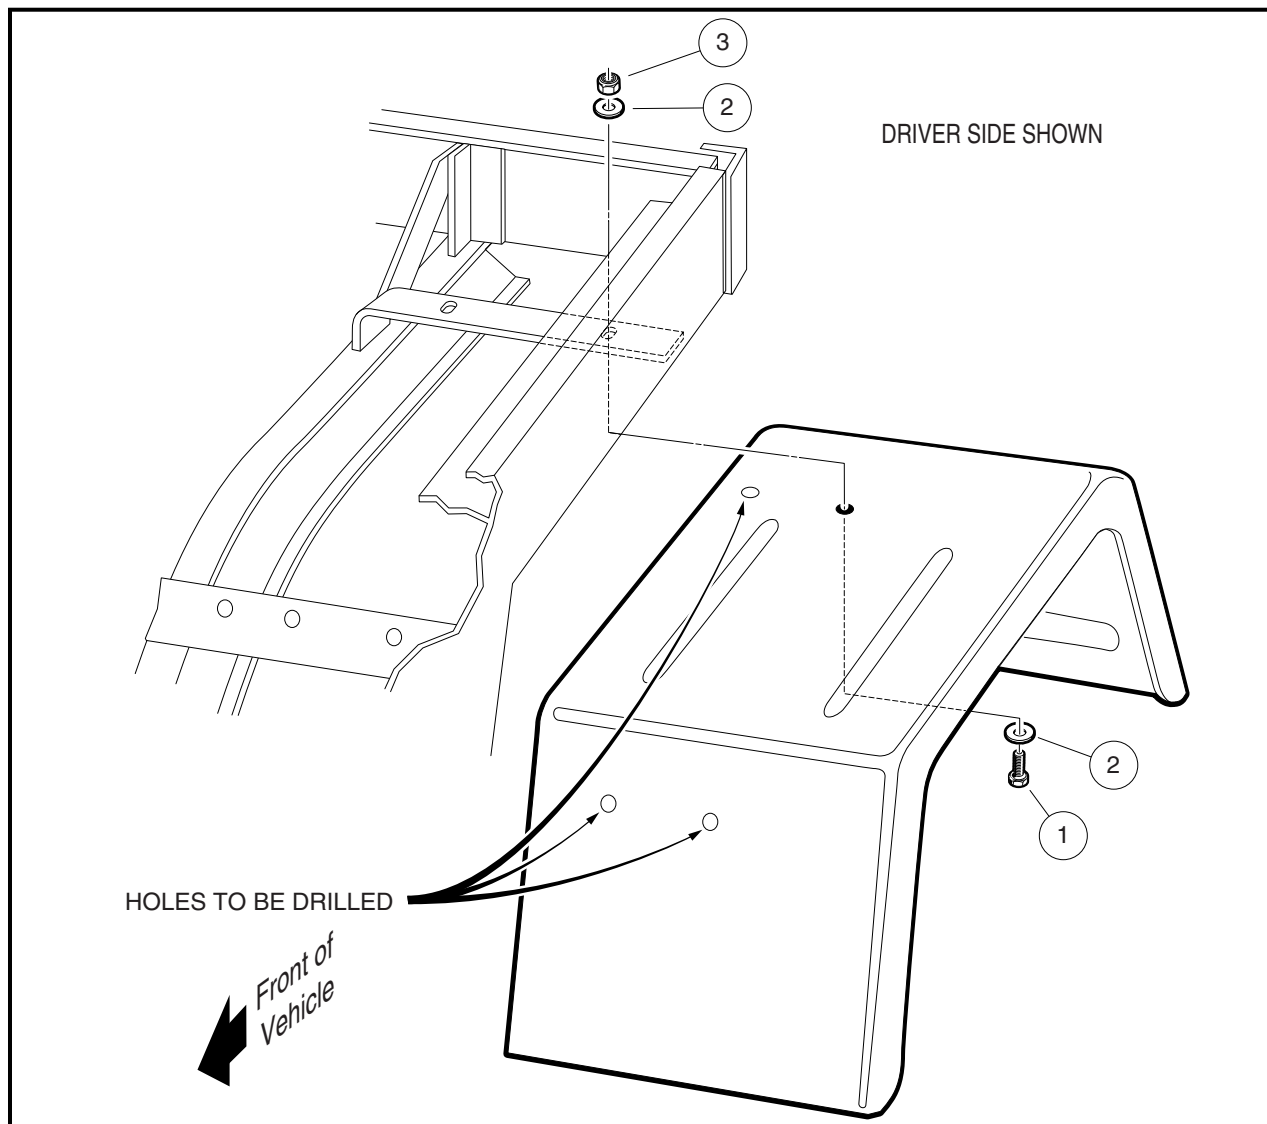

Figure 19 Install Hardware in Fender Hole
3. Position a fender in the vehicle, align the hole in the fender with the slot in the frame as shown and install bolt (1), flat washers (2), and locknut (3) (**Figure 19**). Finger-tighten only at this time.